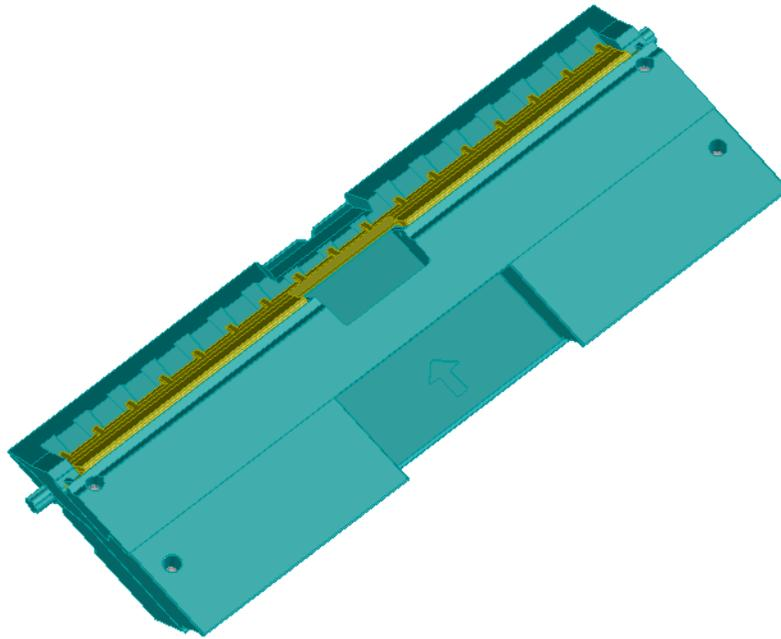

Figure F-4. Input Tray with new Top installed
3) Screw the Bridge–Flap Assembly onto the new tray size. Place the new Input Tray Top for the appropriate ballot size. Care should be taken to ensure that the Input Tray Top is oriented correctly (see Figure F-4 below). Screw the Input Tray Top to the Input Tray Bottom using M3 Phillips Head Screws.